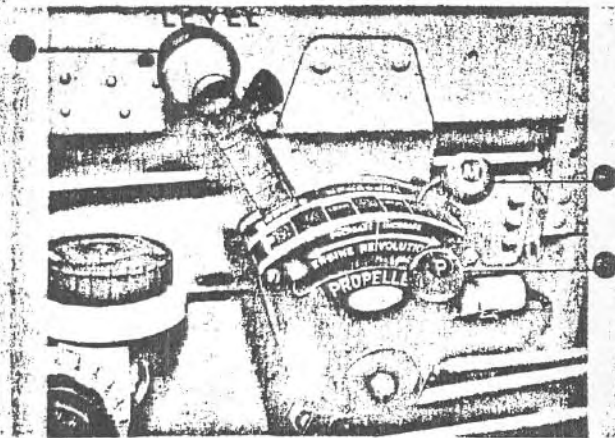
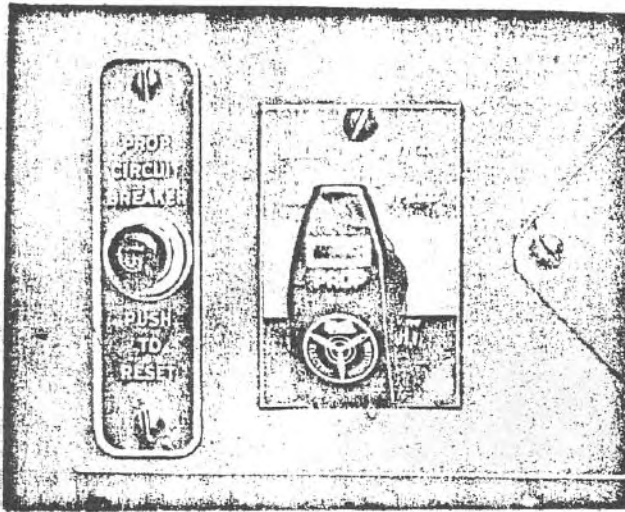

Figure 10—Engine Control Quadrant
Figure 12—Propeller Control Switch
(1) THROTTLE CONTROL. — The throttle control (figures 10 and 11) is located in the engine control quadrant, which is mounted on the left side of the cockpit. The throttle control is provided with a stop that limits the travel of the throttle to 52.0 inches of mercury manifold pressure. By pushing the throttle against the stop and releasing the step latch, a safety wire is broken permitting further forward travel to create "War Emergency Power". The rear position of the throttle is "CLOSED" and forward position is "OPEN".
(8) PROPELLER CONTROLS. — A circuit breaker (figure 12) and a selector switch (figure 12) are mounted on the left side of the main switch panel, and a propeller governor control handle (figure 10) is mounted on the throttle control quadrant. The circuit breaker must be "on" at all times when the airplane is in operation. The circuit breaker is to protect the propeller circuit against an overload. If the circuit breaker is opened by an excessive load, it